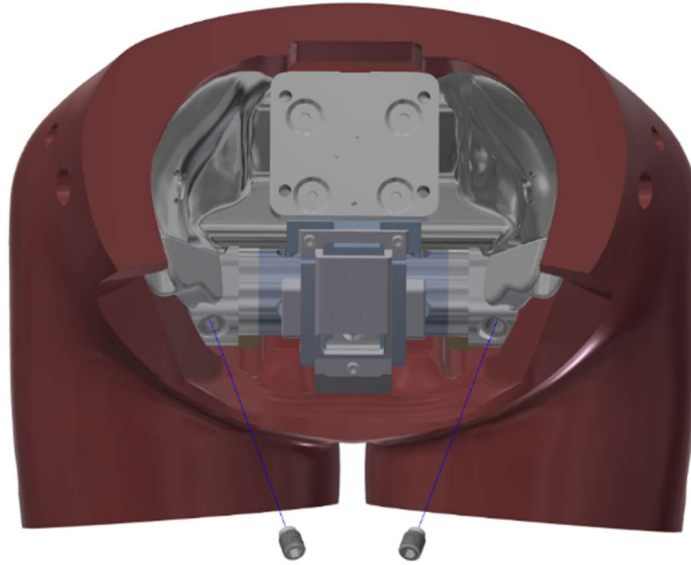

Figure 8-59. Tighten the Left and Right Pelvic Plunger Assemblies (474-4315)
8.3.26 Tighten the Left and Right Pelvic Plunger Assemblies (474-4315) to adjust the hip joint torque setting (Figure 8-59).